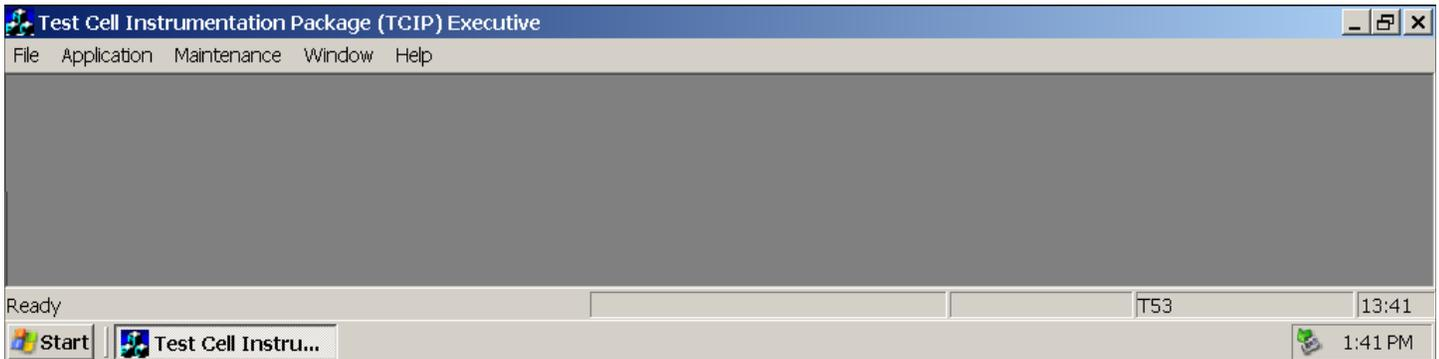

Figure 3. TCIP Executive Screen
- (4) Following acknowledgement of the Calibration Required screen, the TCIP Executive window is displayed, Figure 3.